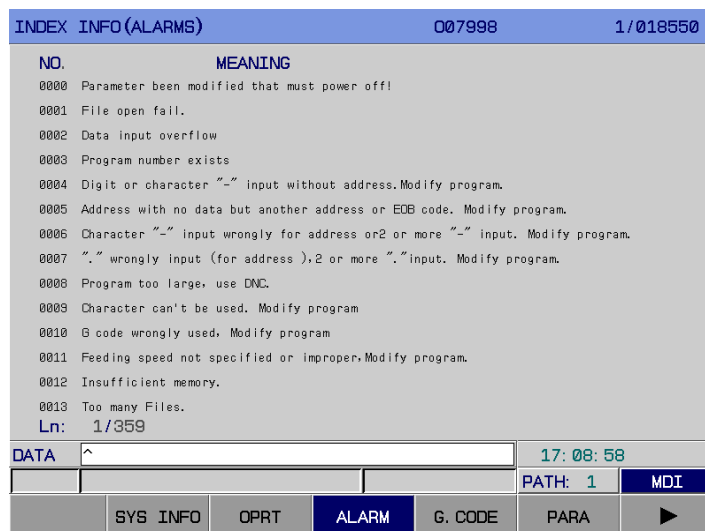

Fig. 3-9-3
3. Alarm table interface Enter the help information (Alarm list) page by **【ALARM TABLE】** softkey in <HELP> interface; refer to the Fig. 3-9-3: